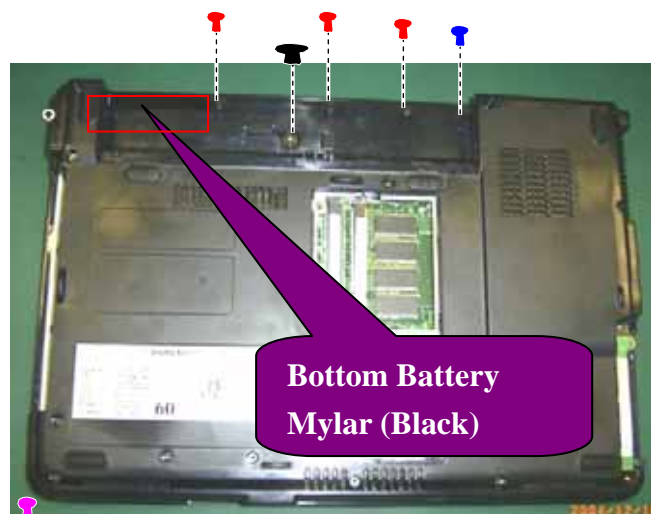

Figure 2-13 Remove 7 screws
2. Remove **3 / 1 / 1 screws** (Figure 2-13)